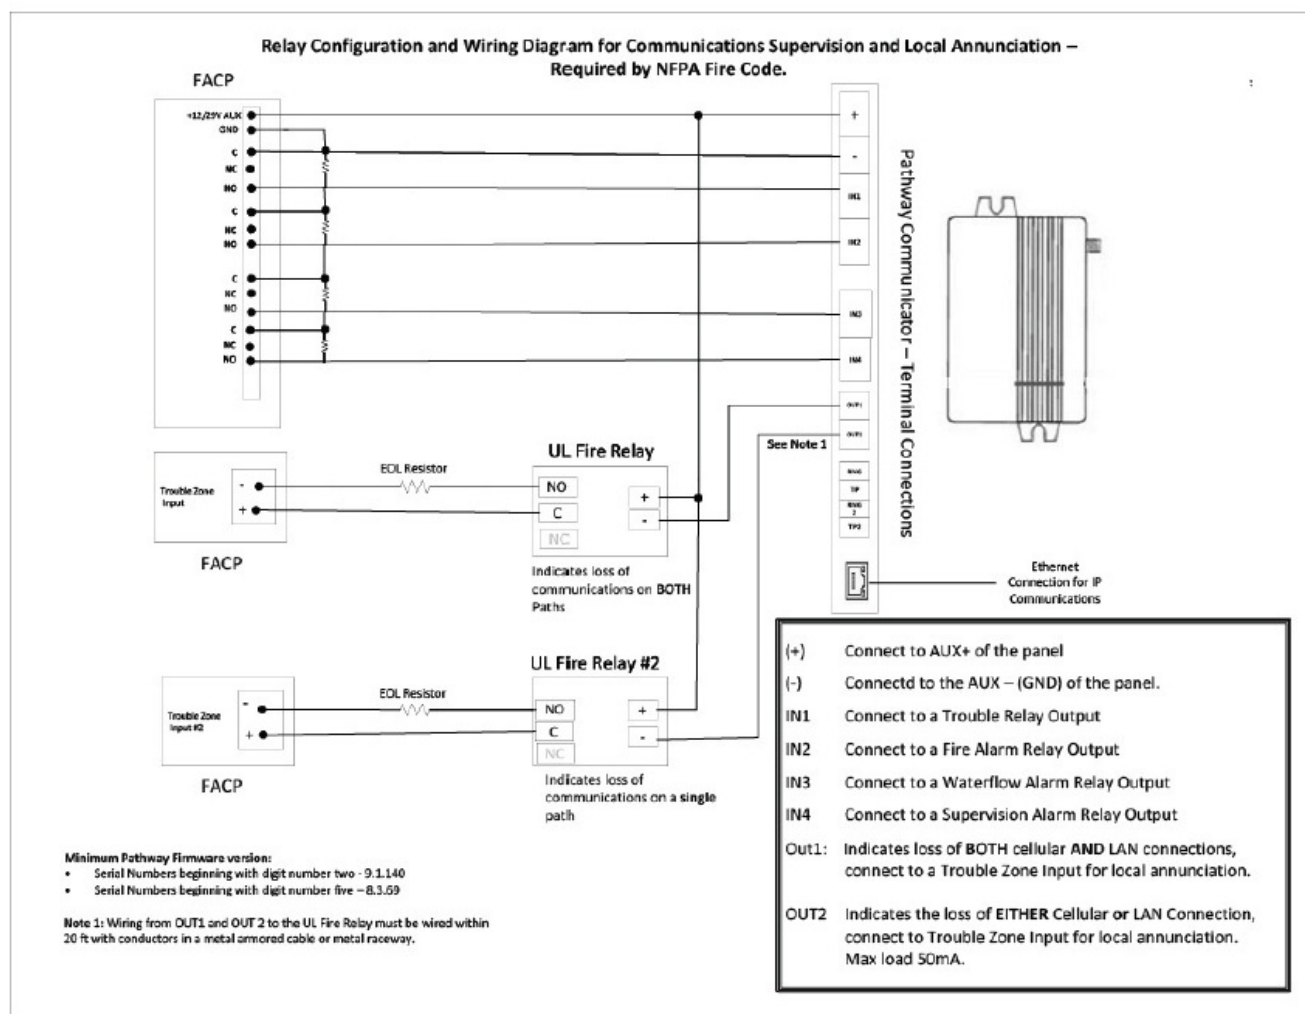

Figure 3 Wiring for Dry Contact Relay Monitoring
2. Connect the panel relay terminals and the communicator as shown in Figure 3.